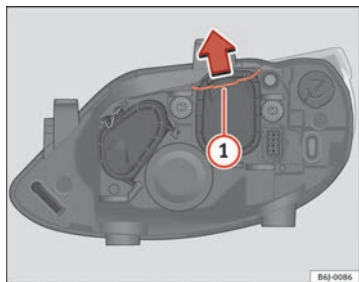

Fig. 152 Dipped beam headlights
- Move the loop ⇒ fig. 152 ① in the direction of the arrow and remove the cover.